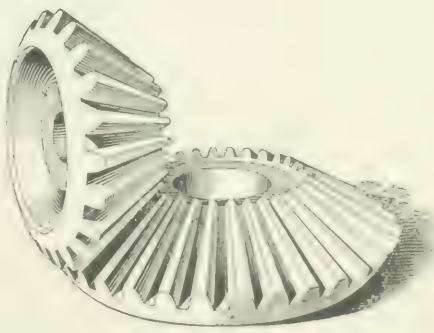
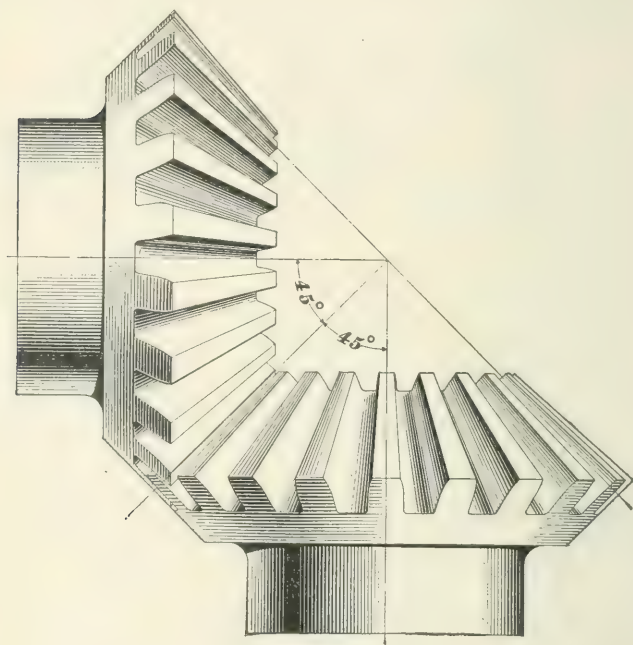

FIG. 21.
FIG. 22.
43. In Fig. 21 is shown a pair of **bevel gears** in mesh. Of the two wheels shown, one is smaller than the other; when both wheels of a pair of bevel gears are of the same diameter they are called **miter gears**. In Fig. 22 is shown